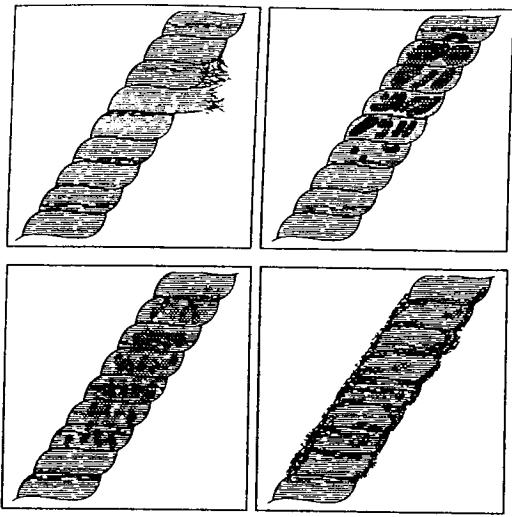
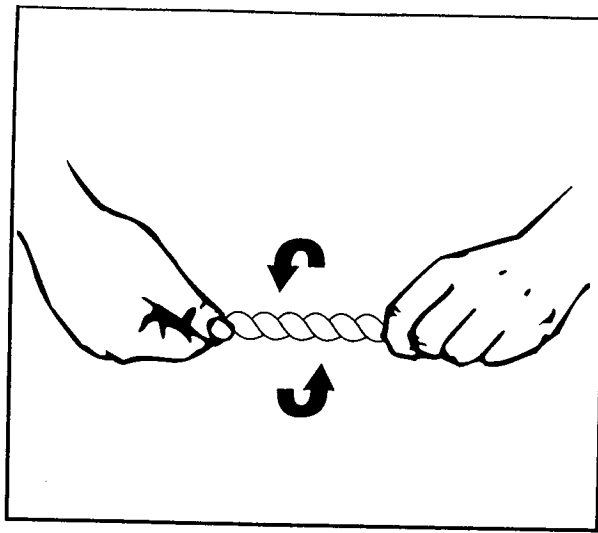

Figure 8
Figure 9
12.4 **Lifeline:** It should be inspected for any broken, cut, worn, burned (see Figure 8) or otherwise damaged rope strands by rotating the rope (see Figure 9). Fading of color is a mark of ultraviolet damage which may indicate a need of testing or replacement. The lifeline should be free of any loose materials such as dirt, sand or other materials as this could interfere with the overall function of the Gripgrab® rope grab. Confirm that the eye splice is tight around the lifeline thimble. If the thimble is missing or the splice is loose, the lifeline must be replaced. The lifeline surface must be free of any kind of petroleum or chemical contaminants. **If the lifeline has any dam-**